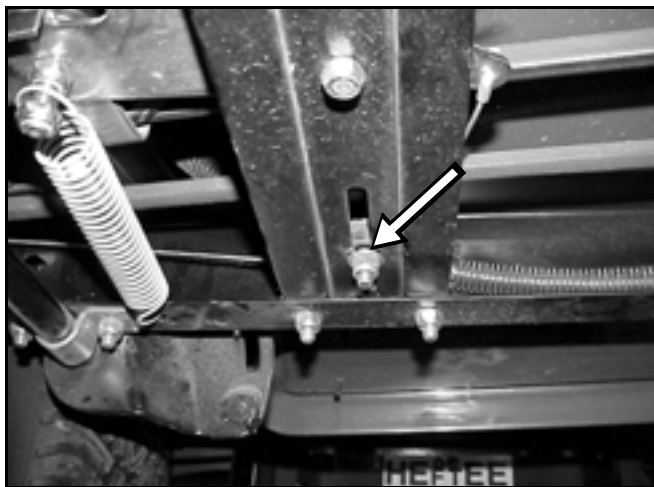

Figure 36
- Remove the rear hitch panel by removing the two bolts and nuts holding the seat springs and two bolts and nuts located on each side of the hitch panel. Loosen the fastener securing the front cable guide to remove tension from the shift cable (Figure 36).